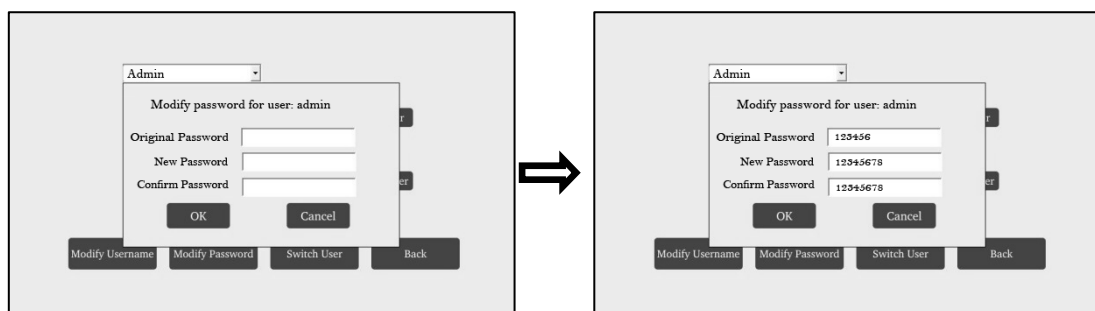

Fig 27
i. Procedure for changing the admin password: Click drop-down button in the top of the window and select admin ->click “ **Modify Password** ”, fill in the original password, new password and confirm password, then click “ **OK** ”. (Ref Fig 27)